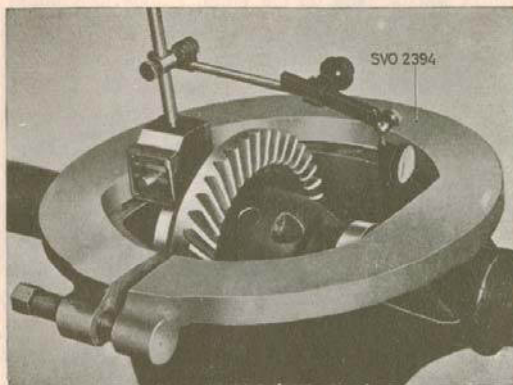

Fig. 5-11. Expanding the drive pinion carrier
7. Fit tool SVO 2394 in the holes in the drive pinion carrier as shown in Fig. 5-11. Fit an indicator so that the expansion of the drive pinion carrier can be read off. Tighten the tensioning screw so that the carrier is expanded not more than 0.3 mm (0.012"). Remove the indicator. Lift out the differential case with the ring gear.
11. Fit tool SVO 2394, see Fig. 5-11 and an indicator on the drive pinion carrier. Tighten the tensioning screw so that the drive pinion carrier is expanded